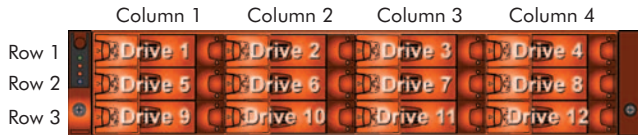

Figure 16: Bay Number Definition
3. Gently slide the carrier all the way into the enclosure until it is stopped by the camming lever on the right of the carrier (see Figure 16).